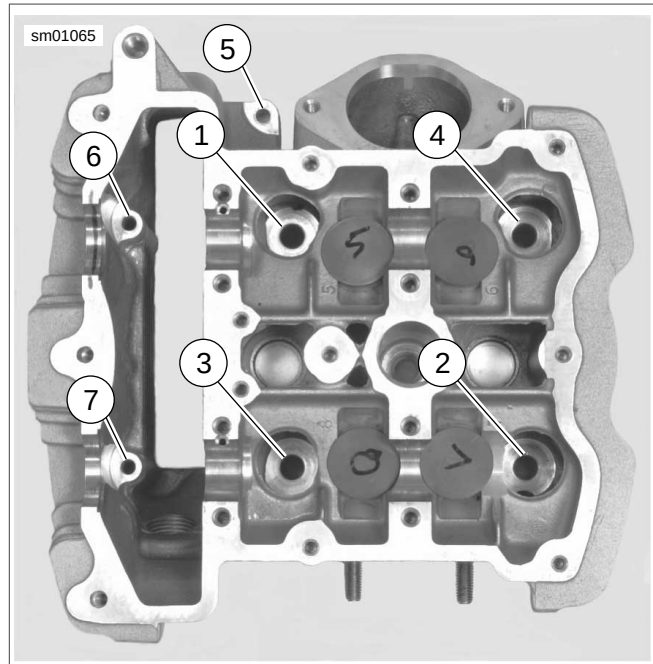

Figure 3-83. Head Bolt Torque Sequence (rear cylinder head)
4. See Figure 3-83. Tighten four main head bolts in sequence.